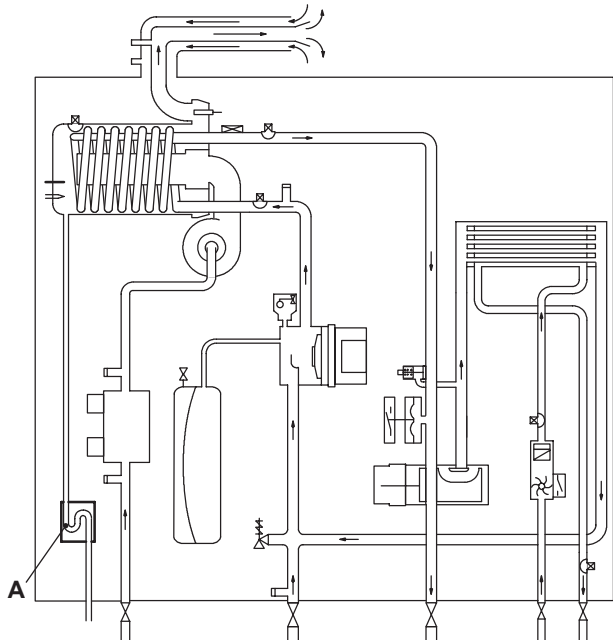
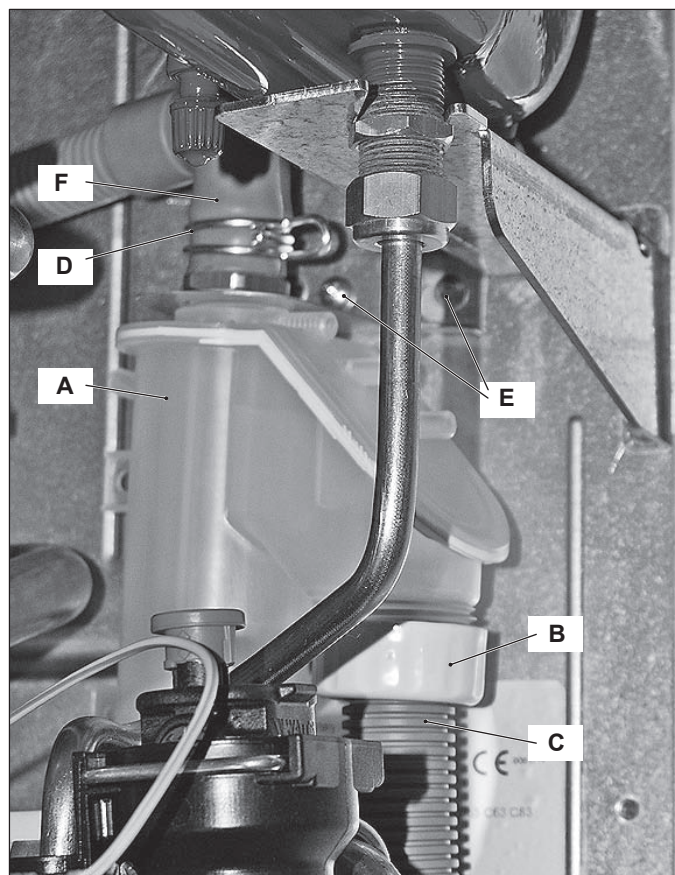

Figure 21.1
Figure 21.2
The condensate trap A in Figure 21.1 and Figure 21.2 allows the discharge of the condensate via the condensate drain pipe avoiding in the mean time the escape of combustion products. A plastic ball closes the trap outlet in case that the trap is empty.
Unscrew the plug B on the bottom of the trap A and remove dirt eventually deposit (Figure 21.2).
- 2 Unscrew the threaded locking ring B and remove the flexible pipe C (Figure 21.2).